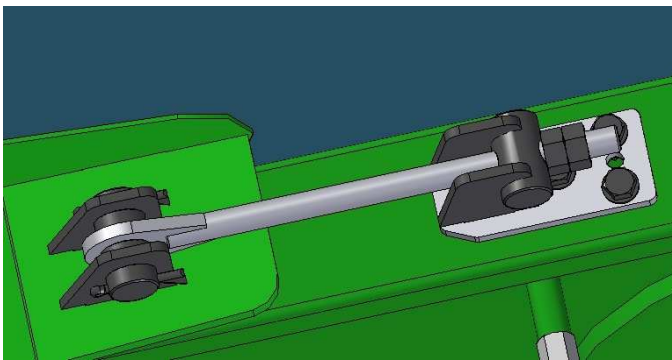

Figure 28
Insert the tensioning device (9) on the left side and tighten it. (Figure 28